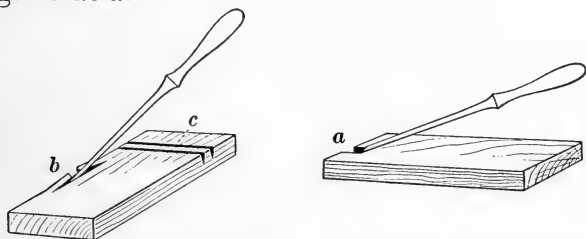

FIG. 10. Cutting with and across the Grain with a Narrow Chisel
5. **Saws.** The saw might be described as a succession of chisels, one back of the other. We can readily understand the action of the saw by making cuts with a narrow chisel along the grain of a piece of wood, as shown in Fig. 10 at *a*.
That this tool will not cut so readily across the grain may easily be proved by again resorting to the narrow chisel and attempting to repeat the first experiment. The wood will act as shown in Fig. 10 at *b*, splitting along the grain in both directions. It is quite evident, then, that a tool for cutting across the grain must be constructed in some other way.